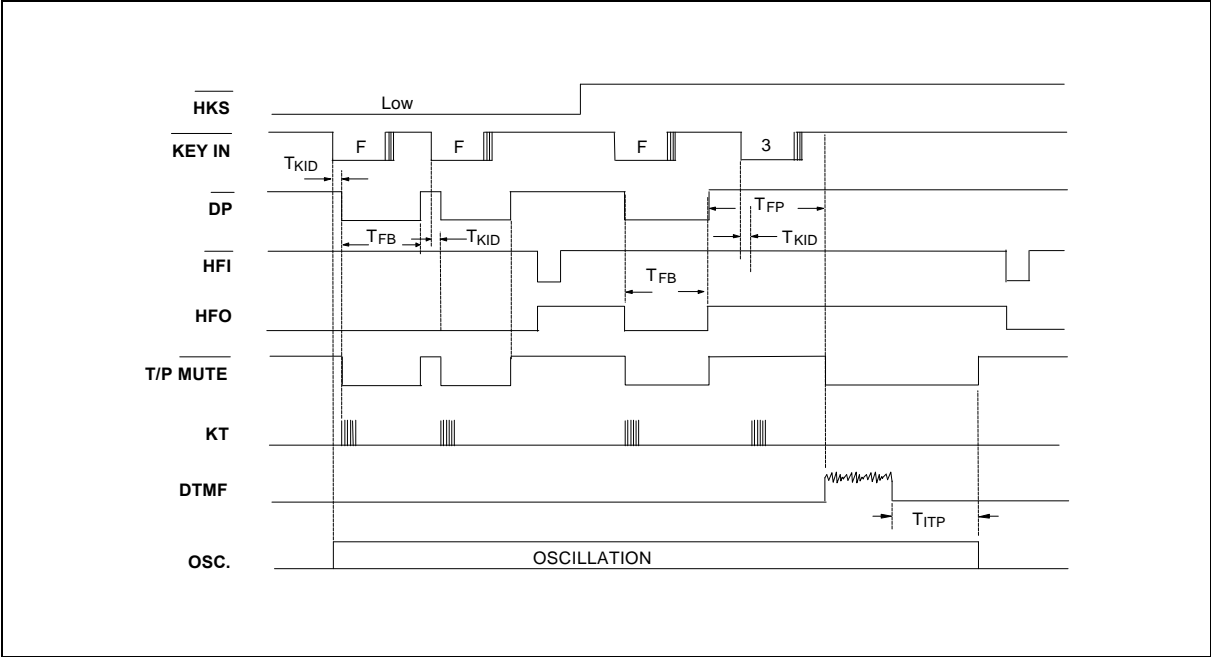

Figure 7. Flash Timing Diagram
5. The flash function timing diagram is shown in Figure 7.